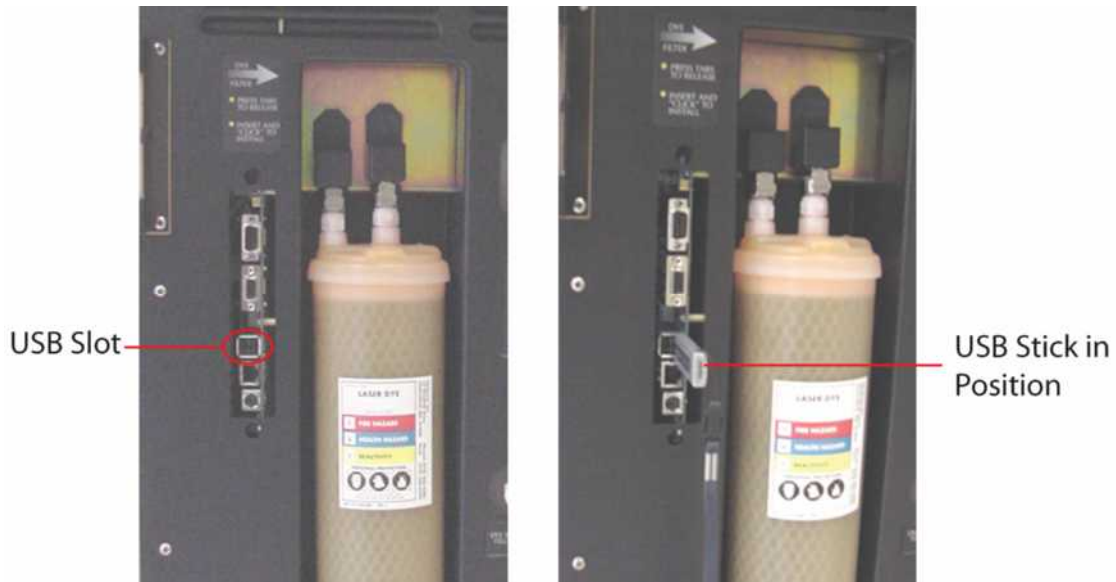

Figure 7B–USB Slot Location
3. Once the panel is off, locate the USB slot, and then insert the USB stick into the slot. See **Figure 7B**. Make sure the LED is illuminated on the USB stick.